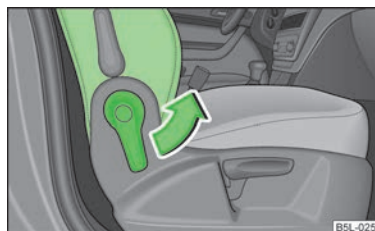

Fig. 43
- Pull the lever in the direction of the arrow » Fig. 43 and fold the seat rest forwards until the lock is heard to engage..